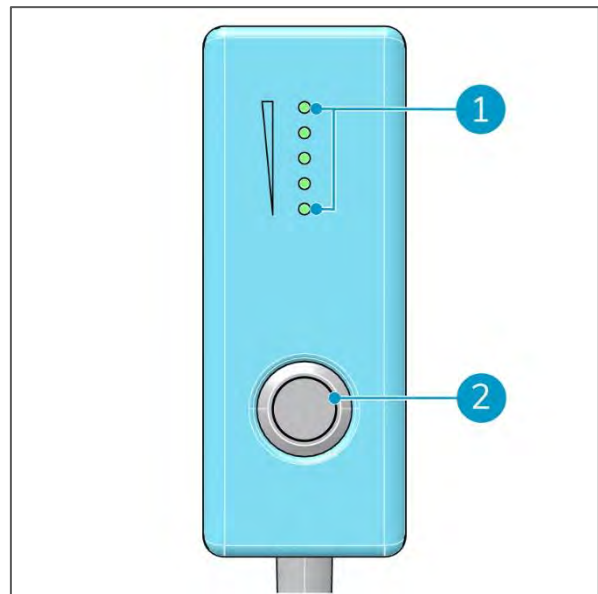

Figure 5
1. Battery power status display (Figure 5, pos 1). The blue battery power status LEDs are on during normal use. When the battery is full all blue LEDs are on, when the batteries get empty the blue LEDs will go off one by one.
2. ON/OFF button (Figure 5, pos 2).